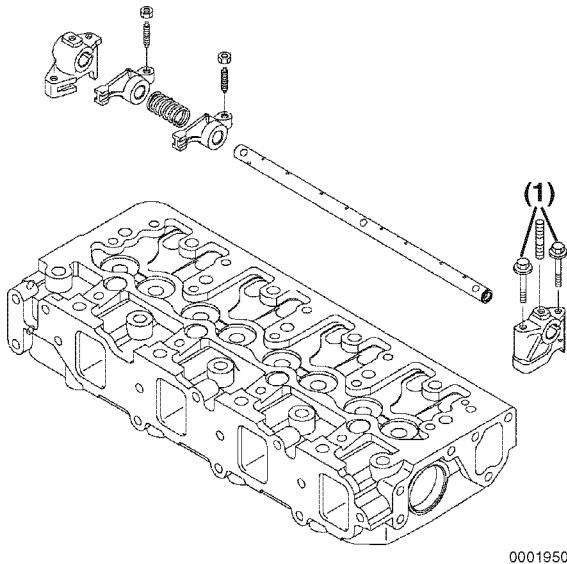

Figure 6-8
1. Remove the bolts (**Figure 6-8, (1)**) that retain the rocker arm shaft supports.